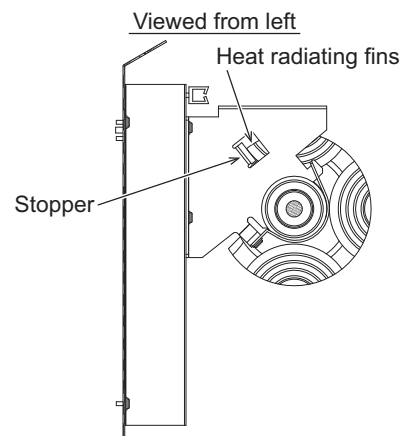

Fig.5
- (2) Fix the motor in place so that the heat radiating fins on the motor and the stopper of the motor leg are positioned as shown in Fig. 5.